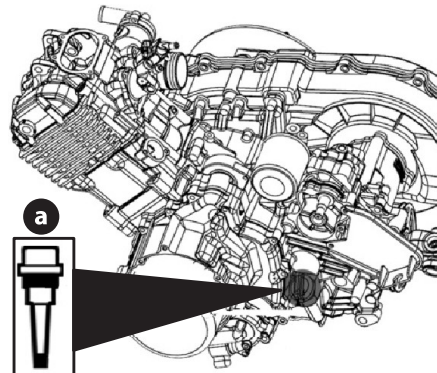

Figure 20
2. To check the oil level, remove the dipstick (a), wipe it clean, replace it without re-threading the dipstick, and pull it out again, check to see if the level is too low and add new oil to the full level on the dipstick (a) (Figure 20).for the location of dipstick.